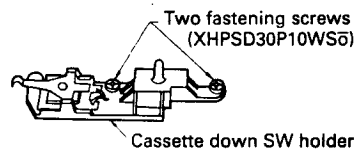

Figure 31.
- 3) Remove the two screws (XHPSD30P10WS0) which fasten the cassette down SW holder and move the holder slightly. (Be careful not to cut off the leads of the cassette down SW.) (See Figure 31.)
- 4) Remove the two screws (6) (XBPSD30P05J00) fastening the reel motor and, holding the reel motor from the underside of the chassis, remove the reel motor. At this time, keep reel idler (4) moved to the right.